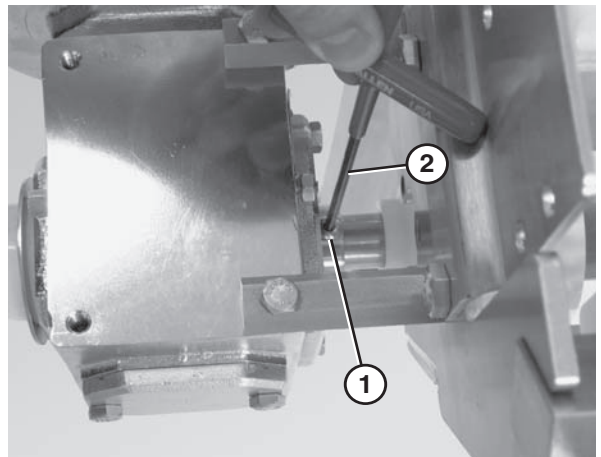

Figure 57
1. Loosen the fasteners (**Figure 57, item 1**) that connect the gearmotor to the drive spindle using a hex wrench (**Figure 57, item 2**).